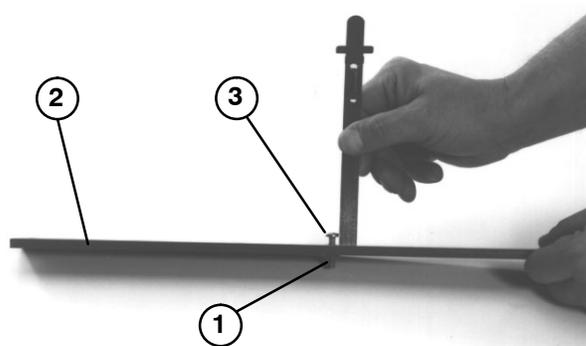

Figure 18
4. Loosen nut on gauge bar and set adjusting screw to desired height-of-cut. Distance between bottom of screw head and face of bar is height-of-cut (Fig. 18).